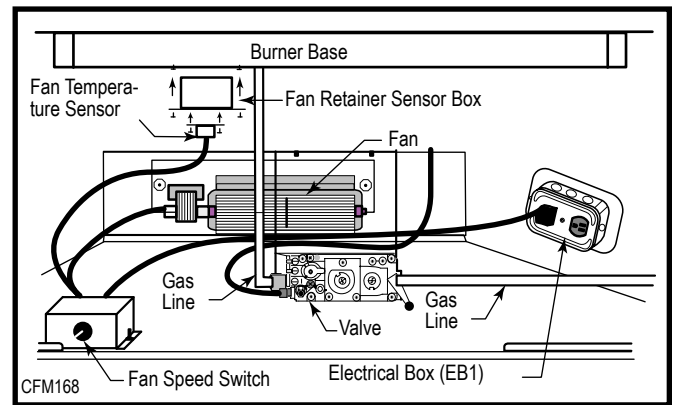

Fig. 1 FK24 installation.
2. Insert fan temperature sensor into retainer sensor box, then secure retainer sensor box onto the burner base with #10-24 hex nuts. (Fig. 1)